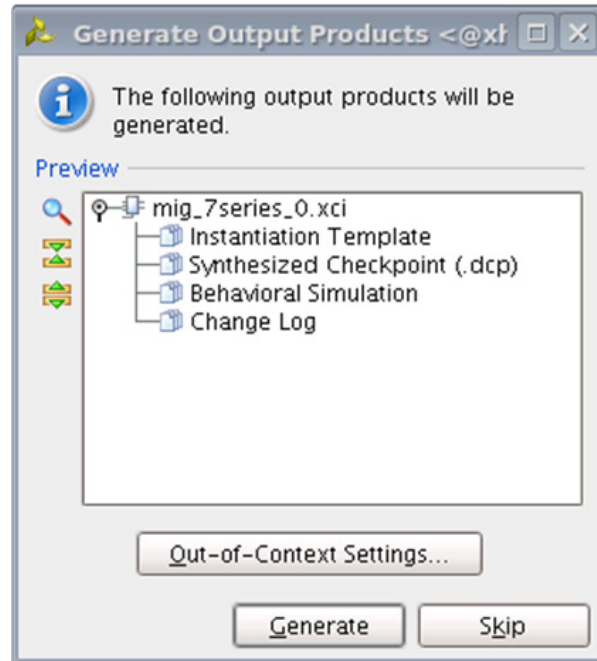

Figure 5-19: **Generate Output Products Window**
1. After clicking **Generate**, the **Generate Output Products** window appear. This window has the **Out-of-Context Settings** as shown in Figure 5-19.